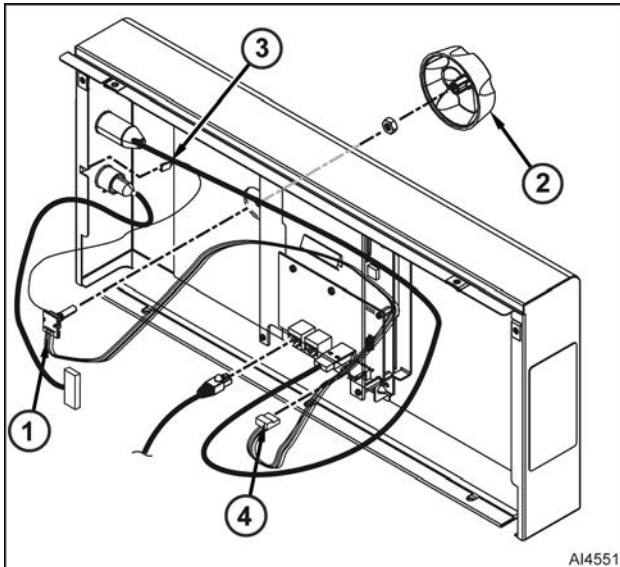

Fig. 7
3. Pull encoder knob (2, Fig. 7) and remove nut from encoder (1).
4. Disconnect encoder cable connector (4, Fig. 7) from touch panel / display assembly.
5. Disconnect spade lug (3, Fig. 7) from control panel frame.